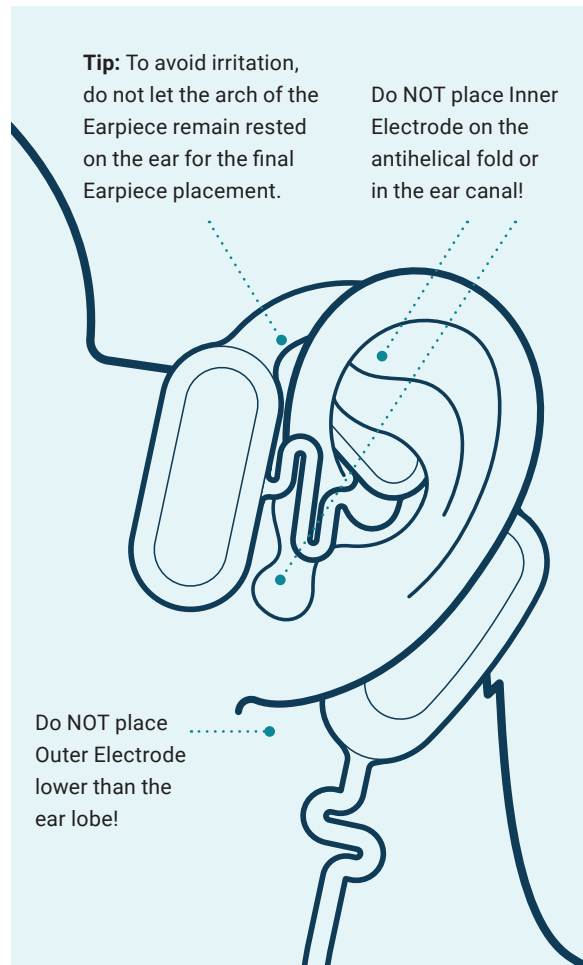

Figure 3.1: Earpiece Model 210 / 211 placed correctly
5. Next, remove the adhesive liner covering the Return Electrode (or Back and Return Electrodes for Models 213 / 214). Press firmly to ensure the entire Back Electrode is adhered to the skin. See **Figure 3.1** or **3.2** for correct Earpiece placement.